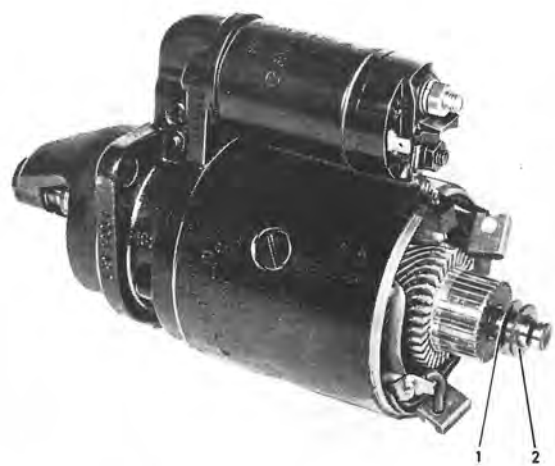

Fig. 3-34. Starter motor with brush bridge removed
5. Remove the bridge from the armature shaft. NOTE. The washers are as shown in Fig. 3-34. When the bridge is removed, the "—" brushes follow also, but "+" brushes will remain in the field winding.
8. Fit the washers on the armature shaft as known in Fig. 3-34.